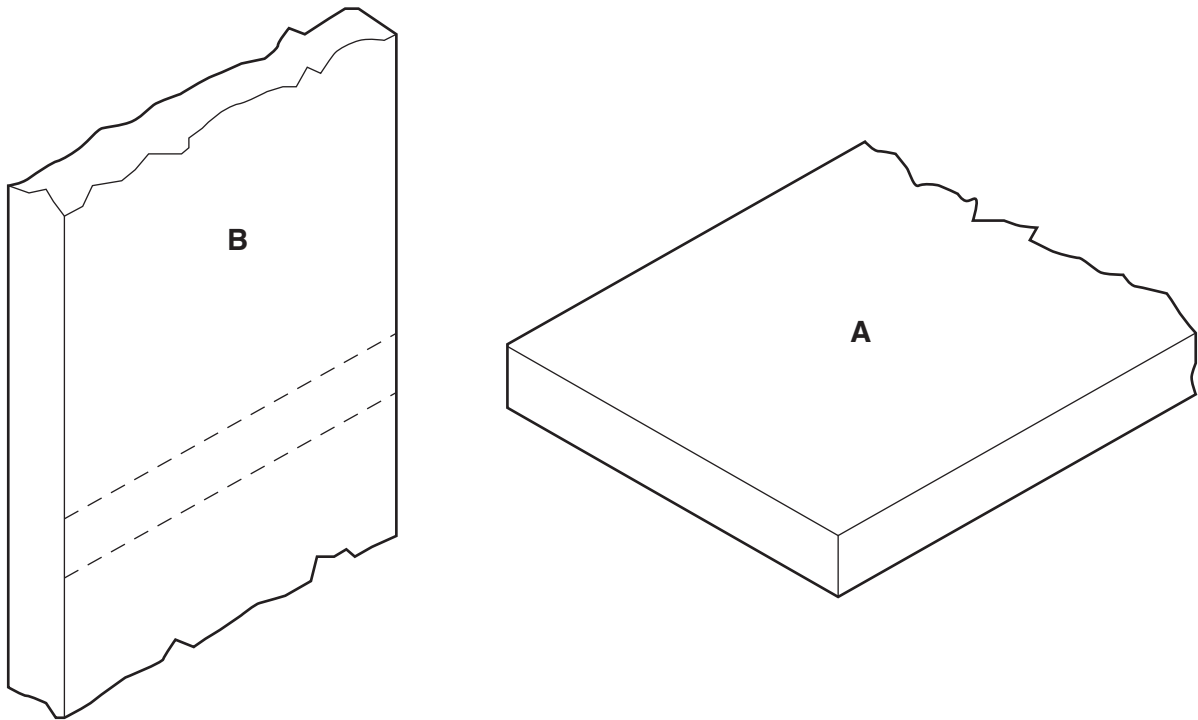

Fig. 3
- 4 Fig. 3 shows two pieces of wood that will be joined together using a biscuit joint.
Draw on Fig. 3 to show how **two** biscuits could be used to join **A** to **B**.